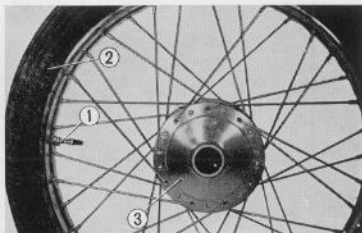

Fig. 4.92 Valve in line
- b. The valve stem must be pointed radially toward the center of the wheel. (Fig. 4.92)